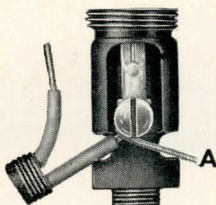

Fig. 2
4. Keep rubber just clear of the terminal and draw one conductor tightly around screw counter clockwise (Fig. 2). Hold end of conductor (A) firmly with pliers and turn screw down tightly against conductor. Do not use force enough to strip threads. Cut off end of conductor (A) close to screw head.